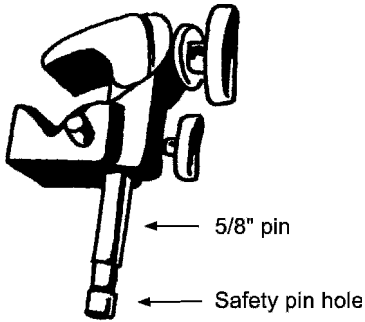

Figure 2.40 Mafer clamp.
1. The mafer clamp (Figure 2.40) is a great little clamp. It looks like a C-clamp that has a 5/8-in. pin on it.